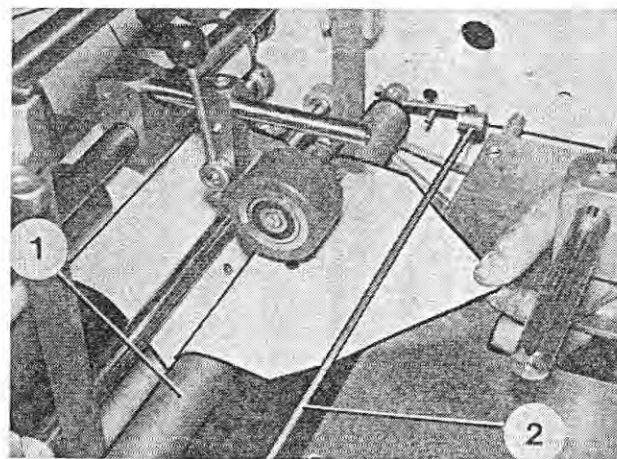

Fig. 103
17. Thread the wrapper over the reversing axle (Fig. 103/1) and below the pendulum (Figure 103/2).